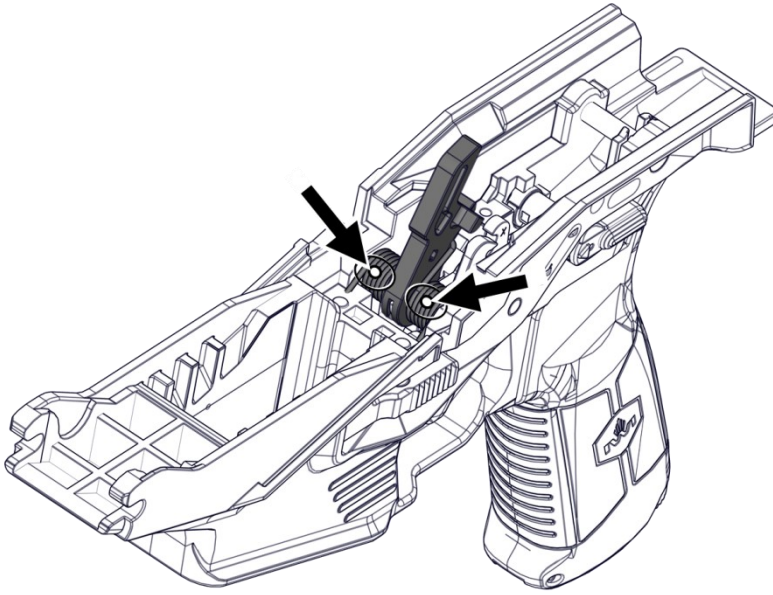

Figure 11-3 – Lubricating the Hammer Spring
12. With the hammer in the charged position, lightly lubricate the hammer spring coils in the marked points (see Figure 11-3).